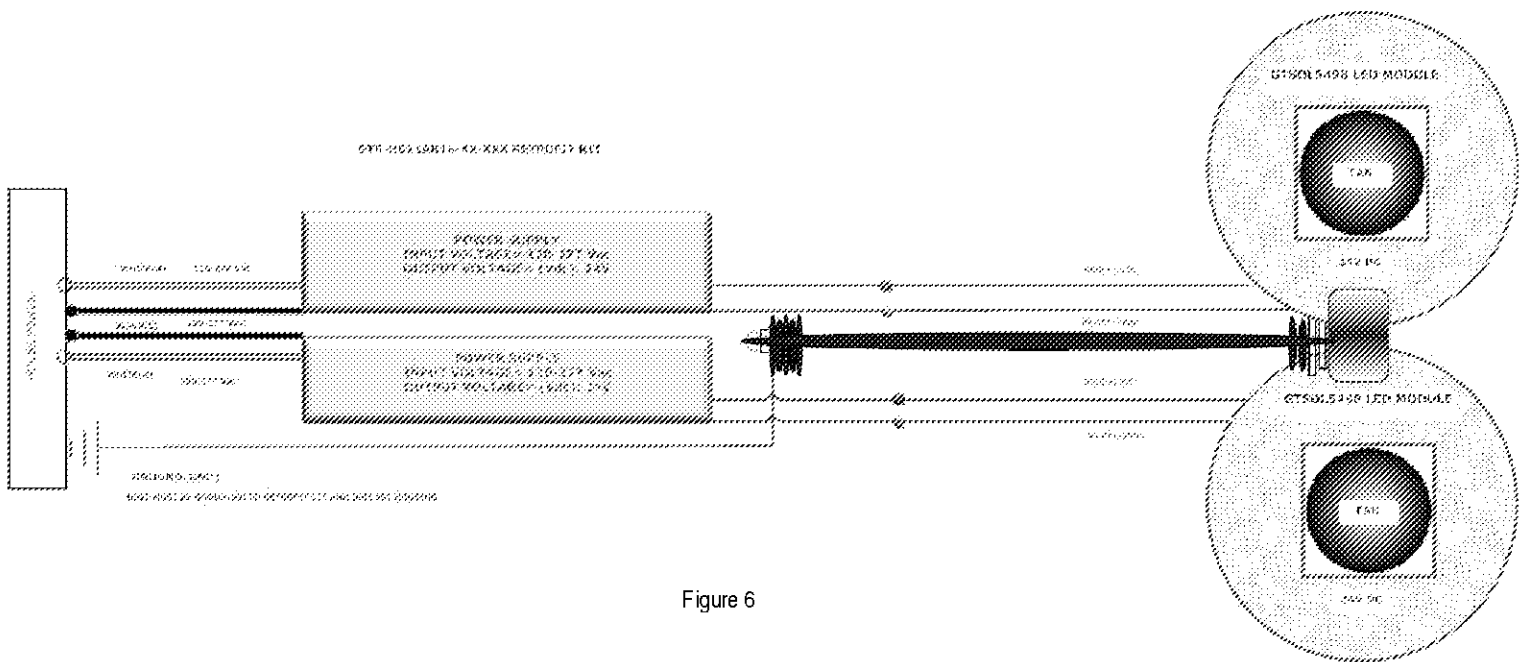

Figure 6
8. Connect the White (NEUTRAL) input power wire to the house power with a white wire using a wire connector, Connect the Black (HOT) input power wire to the house power with a black wire using a wire connector. Connect the Green (GROUND) wire to the house side ground wire using a wire connector as shown in Figure 6.